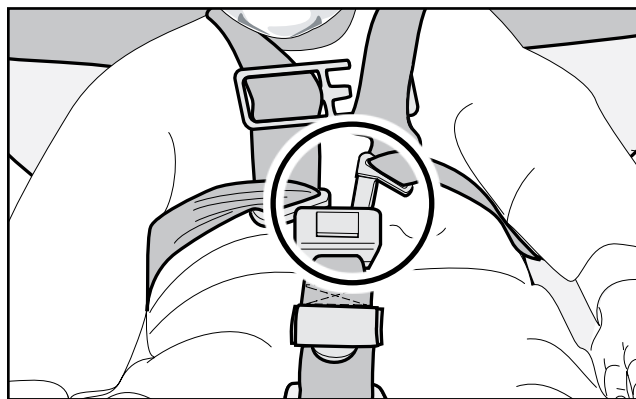

Figure 4 - Fastening a Shoulder Strap
2. Lift a shoulder strap over one shoulder of the patient. Place patient's arm through the strap, then lock the buckle half into the central buckle (Figure 4).